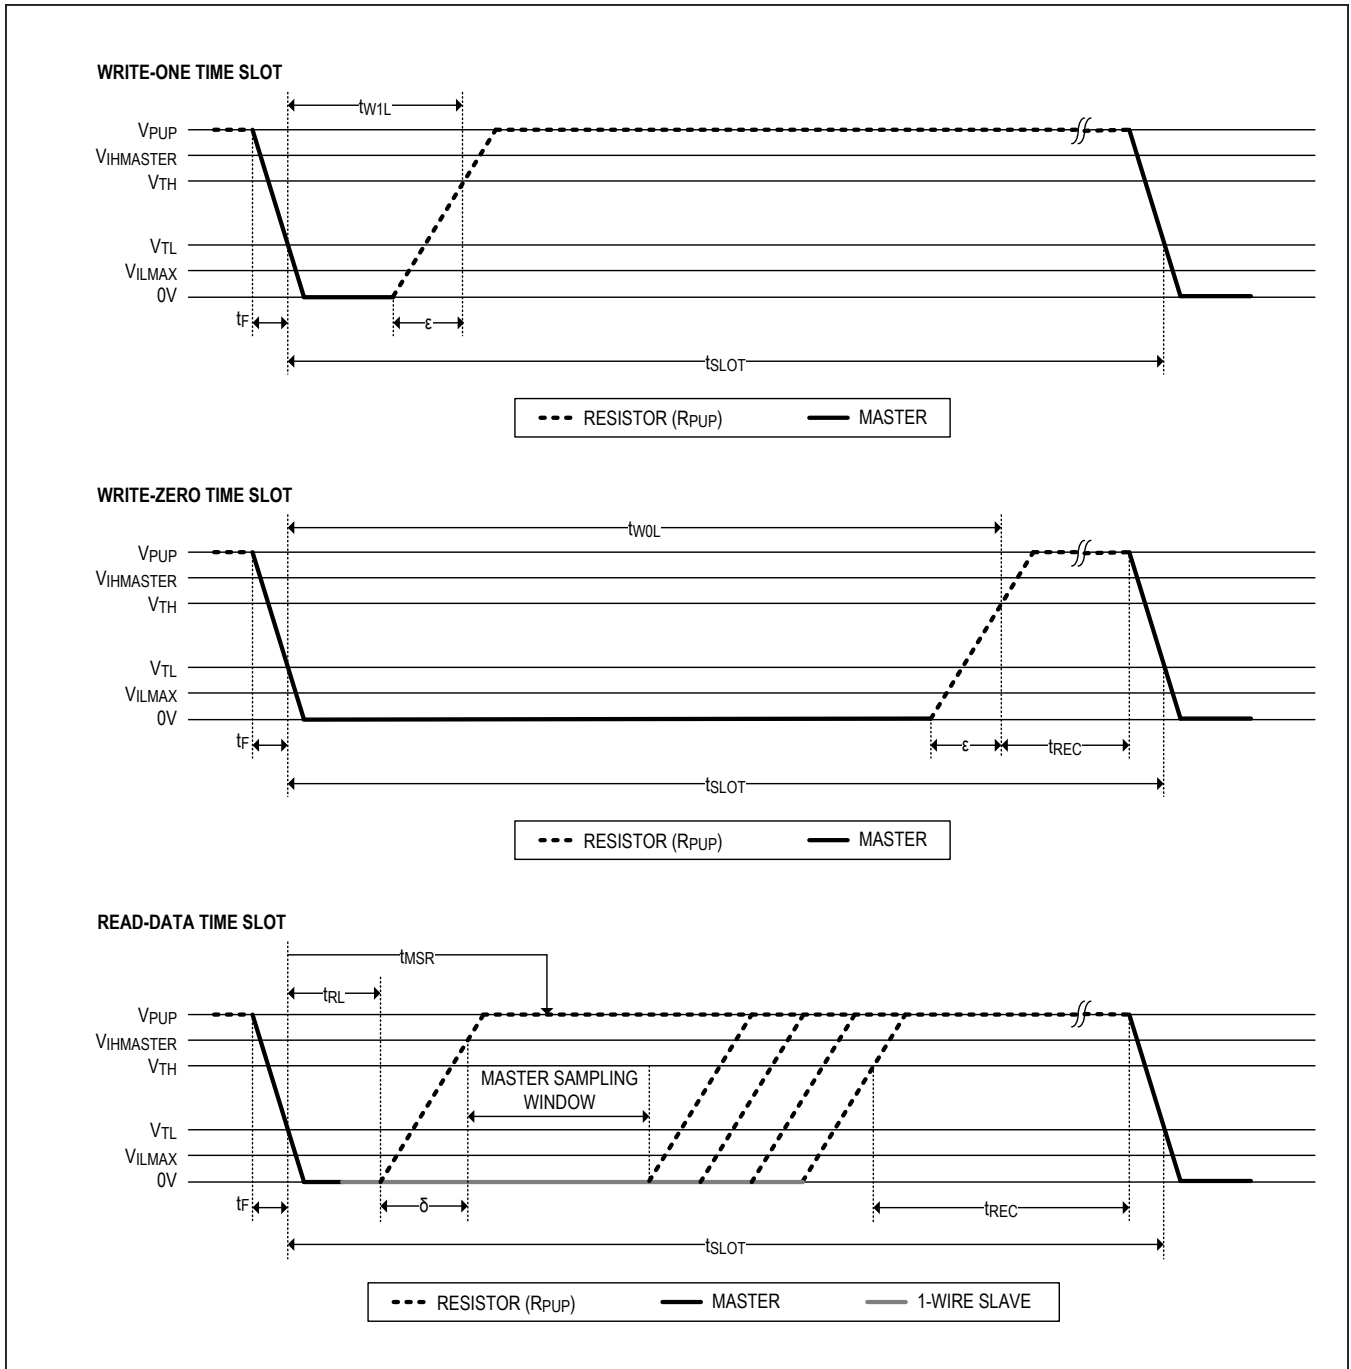

Figure 4. Read/Write Timing Diagrams
**Note 17:**  $\epsilon$  in Figure 4 represents the time required for the pullup circuitry to pull the voltage on IO up from  $V_{IL}$  to  $V_{TH}$ .
**Note 18:**  $\delta$  in Figure 4 represents the time required for the pullup circuitry to pull the voltage on IO up from  $V_{IL}$  to the input-high threshold of the bus master.
Data communication with the DS28E83 takes place in time slots that carry a single bit each. Write time slots transport data from bus master to slave. Read time slots transfer data from slave to master. Figure 4 illustrates the definitions of the write and read time slots.